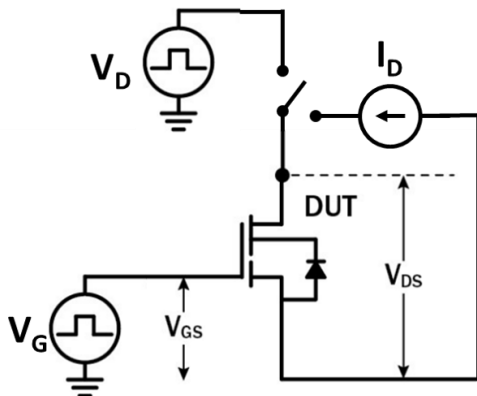

Figure 19. Dynamic $R_{DS(on)eff}$ Test Circuit
- f. Dynamic on-resistance; see Figures 19 and 20 for test circuit and conditions